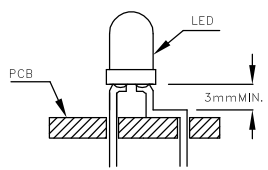

Fig. 5
- ### 5. Maintain a minimum of 3mm clearance between the base of the LED lens and the first lead bend. (Fig. 5 and 6)